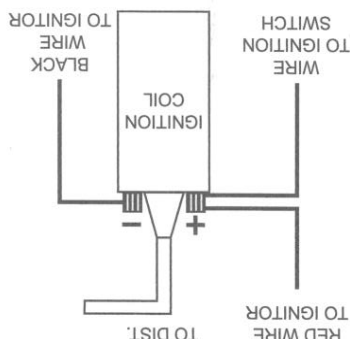

FIGURE 2
5. The red wire from the Ignitor should be connected to the positive (+) side of the coil, or a 12-volt switching power source (See Figure 2 & 3). The black wire should be connected to the negative (-) side of the coil.
18. For installations that do not use a primary ballast resistor or resistance wire, connect the Ignitor red wire to the positive (+) side of the ignition coil. (See Figure 2)